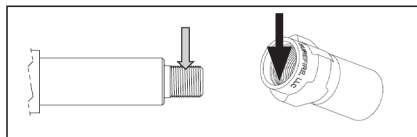

FIGURE 2
3. Apply acetone/degreaser to the muzzle threads of the host weapon barrel (Figure 2). Use cleaning cloth and/or brass brush to remove debris and residue from threads. Additionally, apply acetone/degreaser on a cotton swab to clean the internal threads of the adapter. Rocksett will not adhere to threads if the surface is not dry and stripped clean of debris and residue.